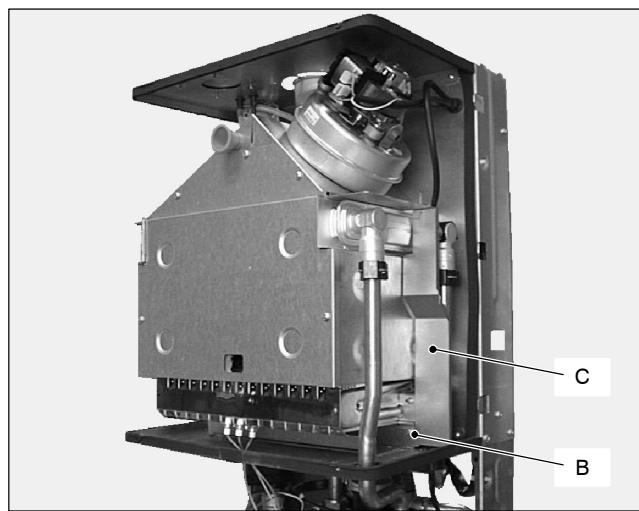

Fig. 68
- 3b For models M90F.28S, M90F.28SR and M90F.32S remove also the plate C (see Fig. 68 on page 32).
- 1b For models M90F.28S and M90F.28SR, remove the screw *B* and the plate *C* (Fig. 68).